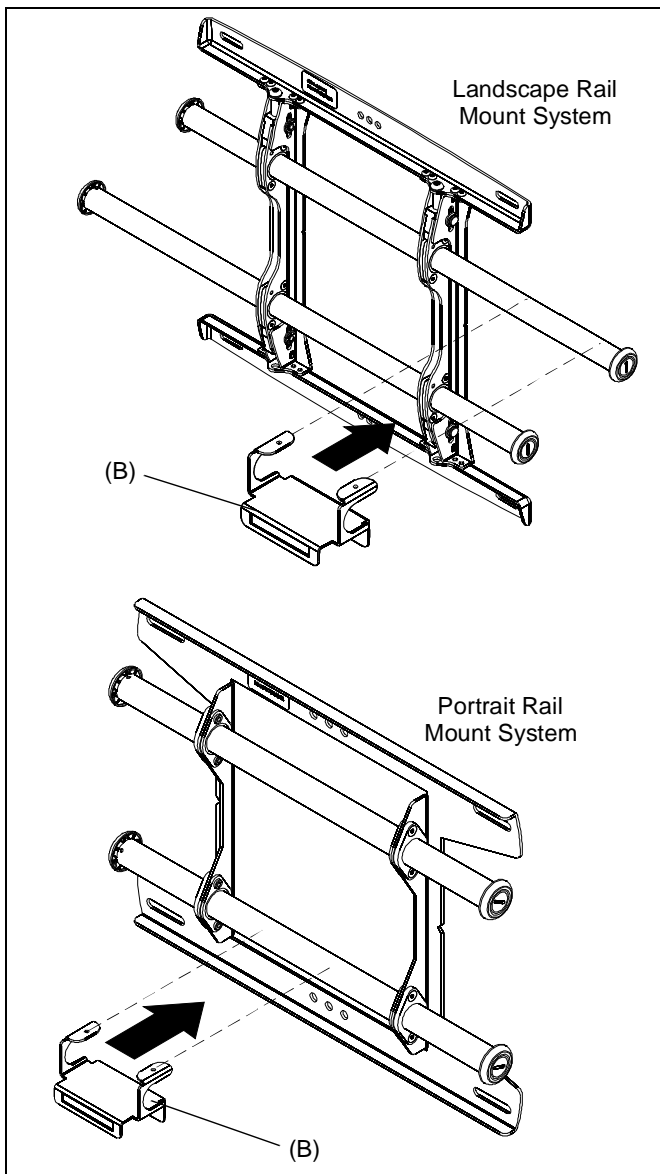

Figure 1
1. Attach the top bracket (B) to rail of mount. (See Figure 1)
NOTE: The MSP-MC1 may be attached to the top rail of a landscape rail mount where the rail has been moved to one side, **OR** may be attached to the center of the portrait mount lower rail. (See Figure 1)